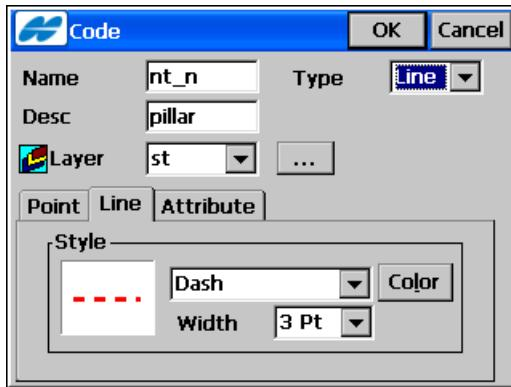

Figure 6-19. Edit Code - Line Type
- *Line*: when *Line* is selected in the *Type* field, color, symbol for node, style, and thickness for line attributes display (Figure 6-19 on page 6-17).